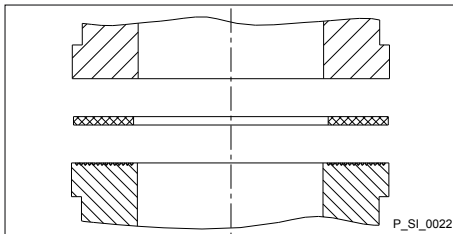

Fig. 16: Elastomer flat seal with a smooth insert
- Use an elastomer flat seal in the event that an unflared insert is used (e.g. third party part) - see Fig. 16.